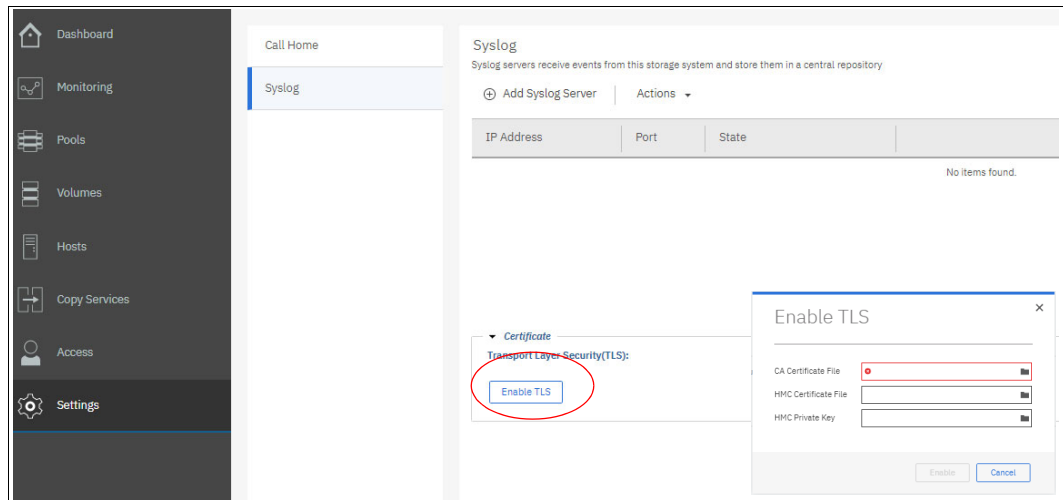

Figure 9-29 Enable TLS window
Note: A DS8900F server must use TLS for its communications with the syslog server. To configure TLS, the customer must generate their own trusted certificate for the DS8900F syslog process with the CA and import the trusted CA file, signed machine (in this case the HMC and syslog process) syslog server certificate file, and key file, as shown in Figure 9-29.
The files that are entered into the fields that are shown in Figure 9-29 are:
3. To enable TLS, in the Certificates area, click **Enable TLS**, as shown in Figure 9-29.